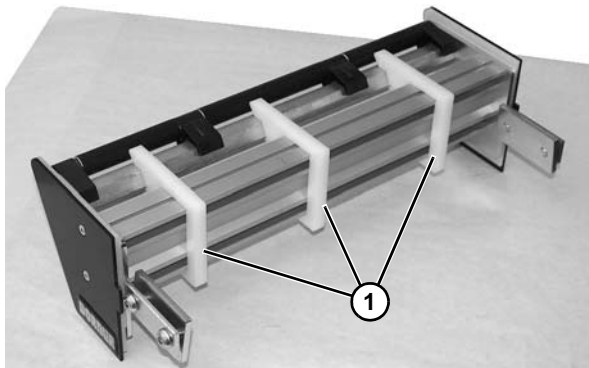

Figure 99
12. Install components reverse of removal, making sure gap filler plates (**Figure 99, item 1**) are evenly spaced on assembly.